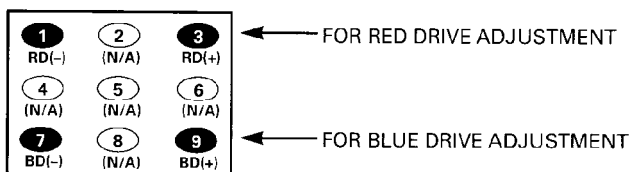

Figure 5. Remote Control Number keys' function in Service Menu NO. 47 DRV
12. Adjust Red and Blue Drive Levels alternately with 1, 3, 7, or 9 key to produce normal black and white picture in highlight areas. (See figure 5 below.)